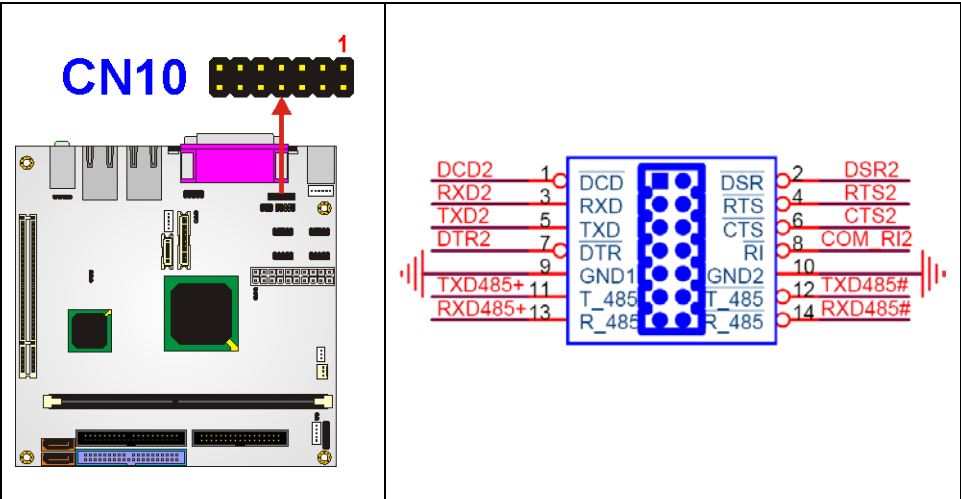

Figure 3-15: RS-232/422/485 Serial Port Connector Pinout Locations
- CN Location: See Figure 3-15